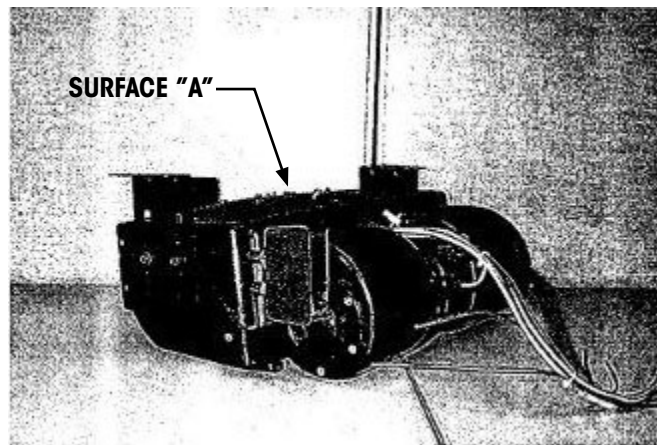

Figure 1
2. Select suitable location on either the floor or the ceiling of the vehicle cab for evaporator unit placement. While making this decision, keep in mind that this unit must be oriented so that Surface "A" is facing upward as shown in Figure 1. Plumbing will eventually be attached to the expansion valve at the rear of the evaporator unit. A drain hose will also be attached and will have to be routed out of the vehicle.
3. Attach mounting brackets to evaporator unit using 1/4 inch hex head screws. For ceiling mounting, orient the mounting brackets so that the flanges extend above the A/C unit (Figure 1). For floor mounting, the mounting brackets should extend below the A/C unit.